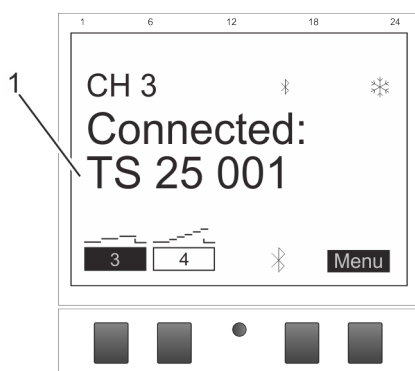

Fig. 10: Channel extension is connected to the DIN-rail timer
6. The channel extension displays the name of the connected device if there is an active connection (Fig. 10/1).